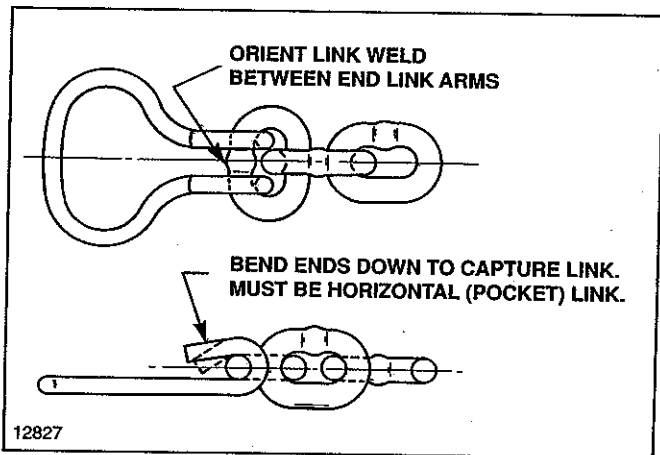

Figure 6-13. Retaining Ring
g. If end link requires replacement, replace per Figure 6-13.